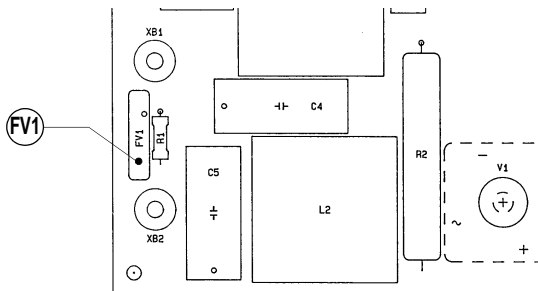

FIG. 1 - C.E. RIF. 3 MOD. HF348
1. Check the general conditions of the electronic circuit ref. 1, particularly the varistor (fig. 1) if it presents bursting marks.